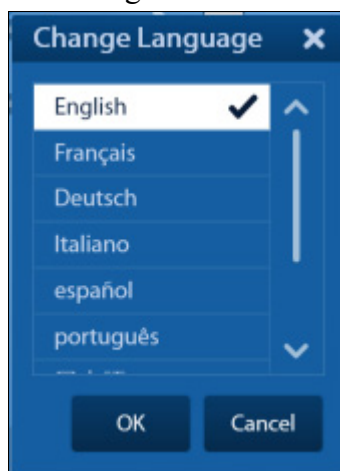

Figure 68: Settings & Utilities > Change Language
4. On the **Change Language** menu press the **OK** button (see Figure 68).